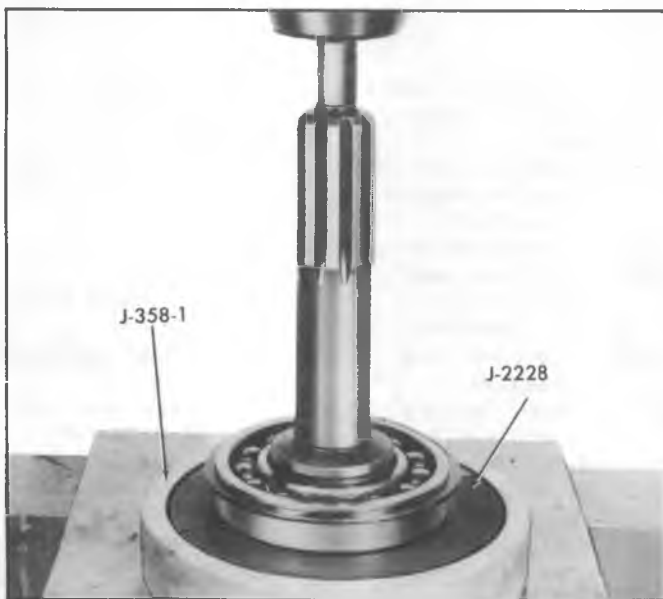

Fig. 6NP--Removing Clutch Gear Bearing
- To remove bearing, place clutch gear and bearing assembly in an arbor press. Using Tools J-2228 and J-1358, press gear and shaft out of bearing (fig. 6NP).